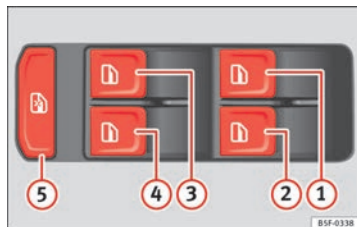

Fig. 60 Detail of the driver door: controls for the windows (5-door vehicle with front and rear electric windows).
Buttons ⇒ Fig. 60 ①, ②, ④ and ⑤ have two positions for opening windows and two for closing them. This makes it easier to open and close windows to the desired position.